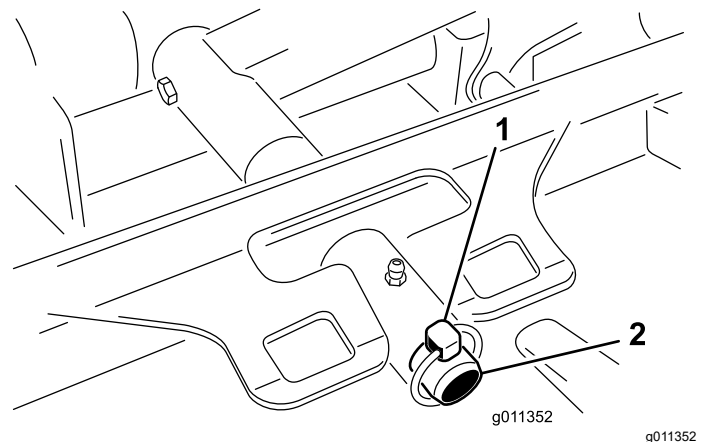

Figure 93
3. Remove the lynch pin (for Groundsmaster 4500 machines) or retaining nut (for Groundsmaster 4700 machines) securing the cutting unit-carrier frame to the lift-arm pivot pin (Figure 93).
2. Slide the cutting unit-carrier frame onto the lift-arm-pivot pin (Figure 93). Secure the cutting unit to the pin with the lynch pin (for Groundsmaster 4500 machines) or retaining nut (for Groundsmaster 4700 machines).